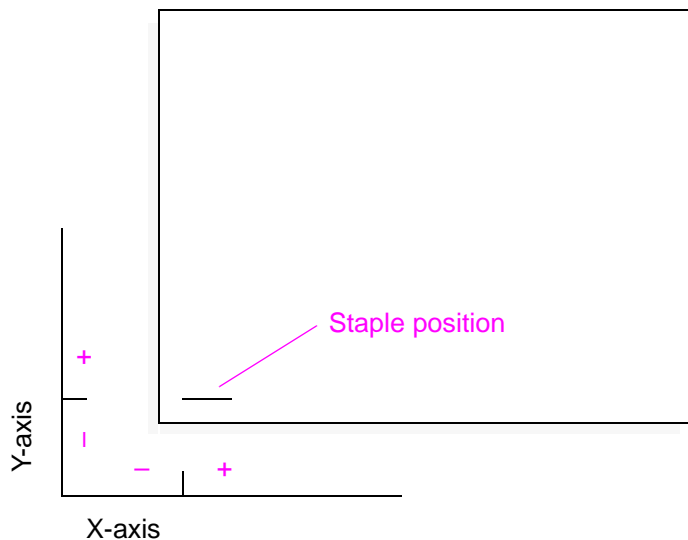

Figure 28. Staple position
- 12 Check the staple position of the 10-page print job against the staple position in Figure 28—Staple position.